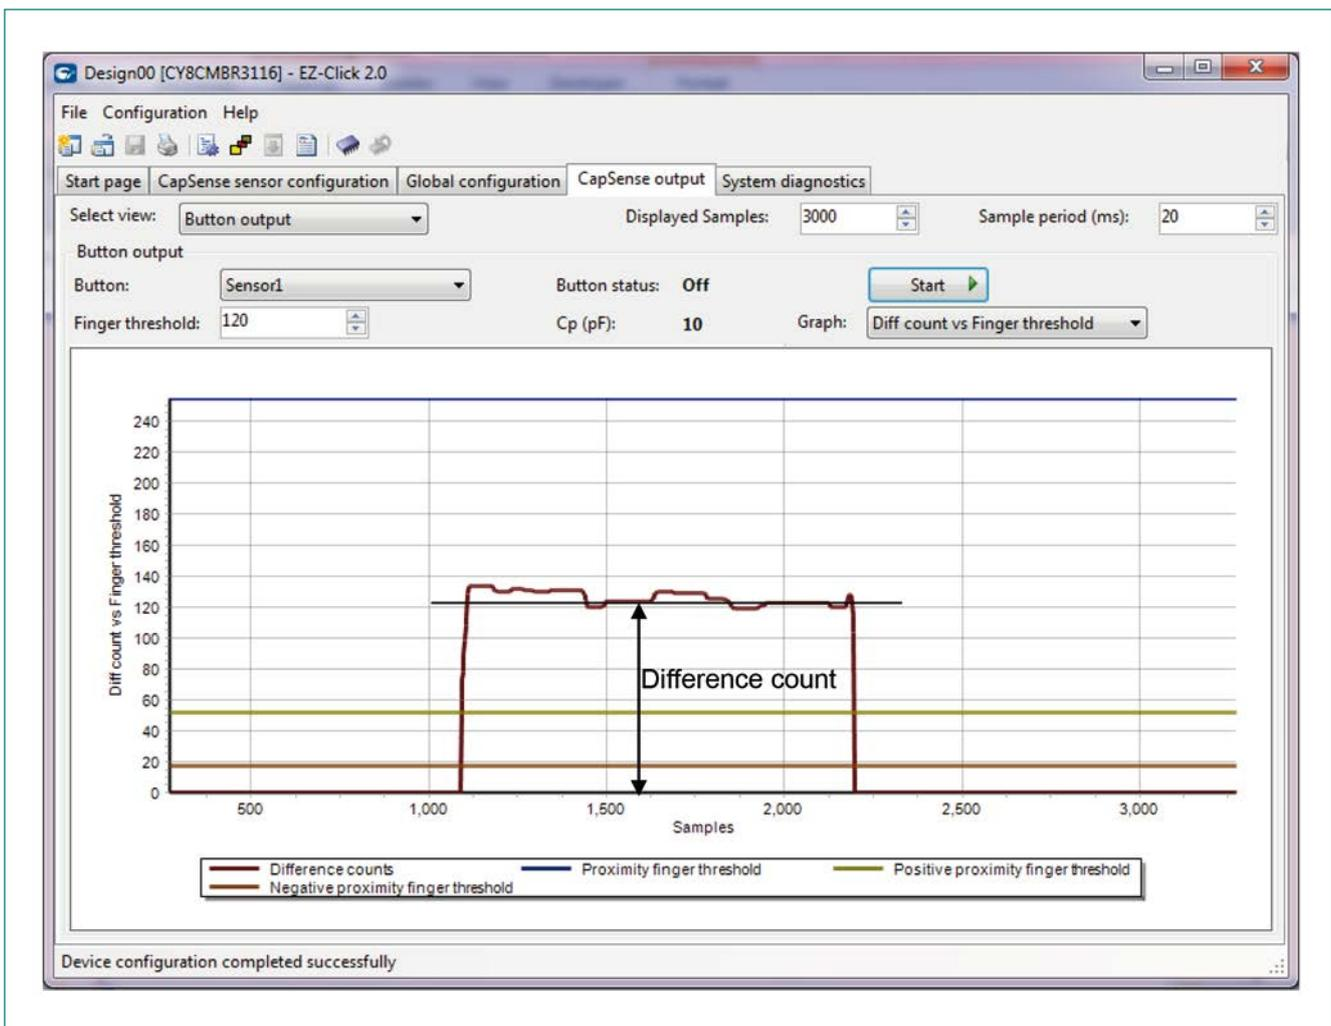

Figure 6-10 Measuring Difference Count to Set Proximity Sensor Thresholds
2. Place the hand at the required proximity distance and measure the difference count, as shown in Figure 6-10.